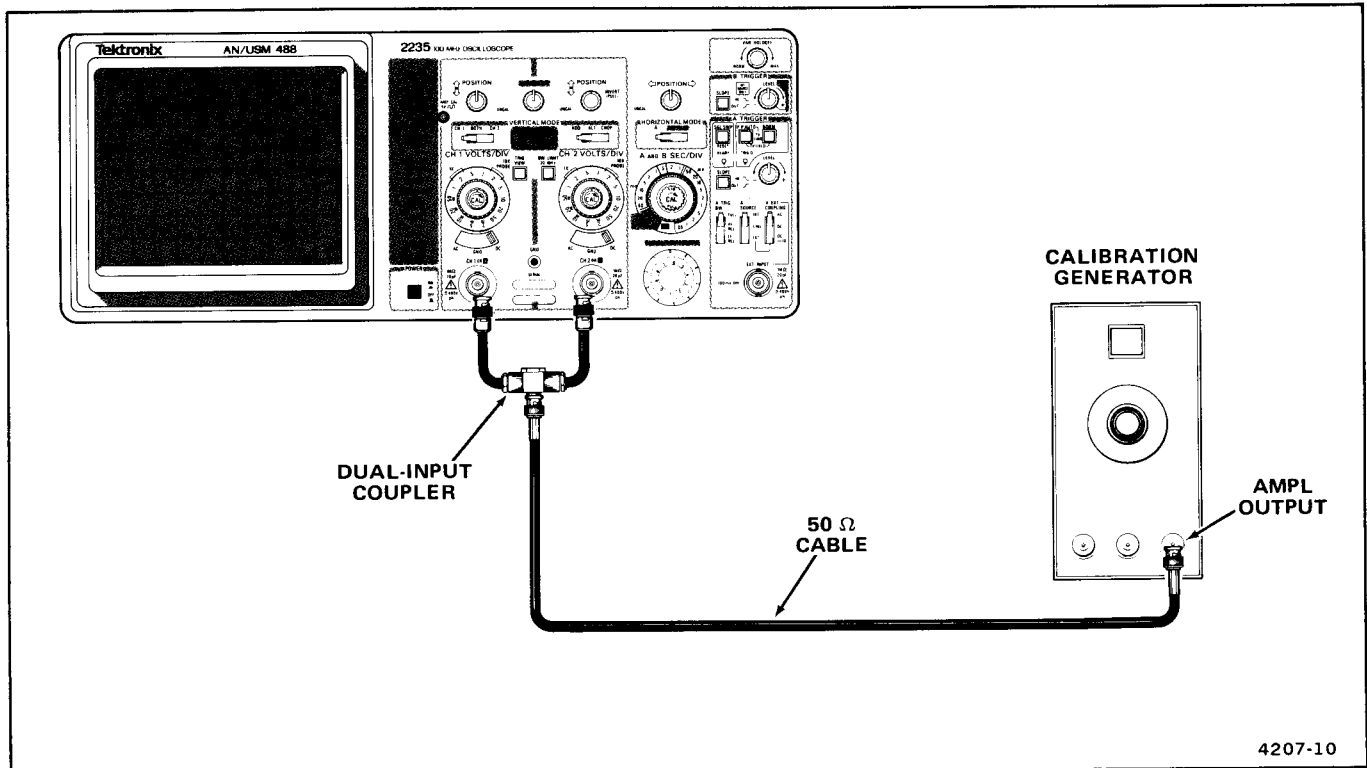

Figure 4-1. Initial setup for instrument familiarization procedure.
1. Connect the square-wave generator output to both the CH 1 and CH 2 inputs as shown in Figure 4-1.